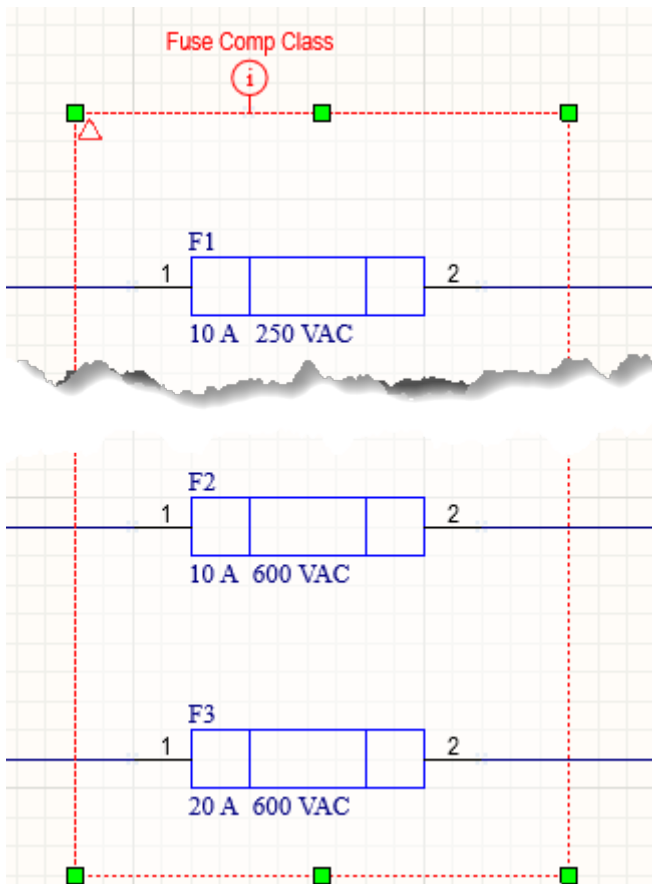

Figure 10. Blanket and Directive for Component Class
46. Select the menu option **Place » Directives » Blanket** and create a rectangle around the three fuses, use Figure 10 as a reference.
48. Place the Directive as seen in Figure 10.